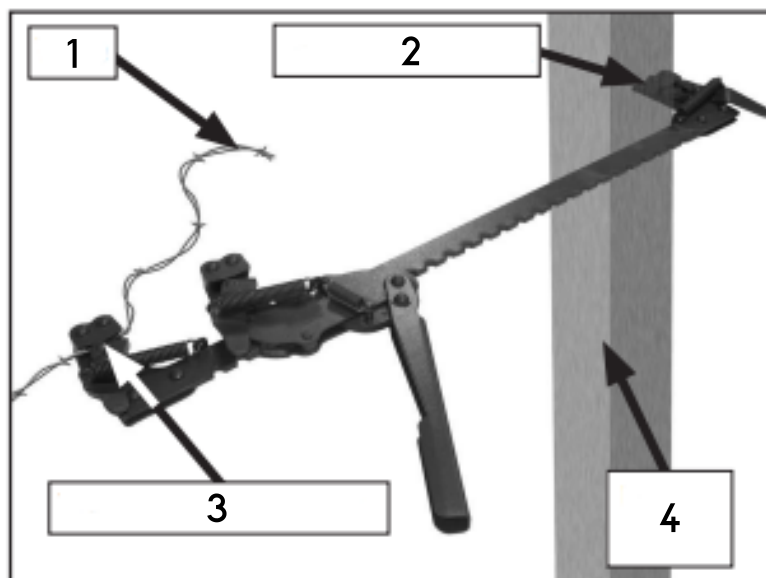

Figure 3
2. Clamp the wire in the locking hook of the clamping jaws, then attach the fixed hook to the post (Fig. 3).